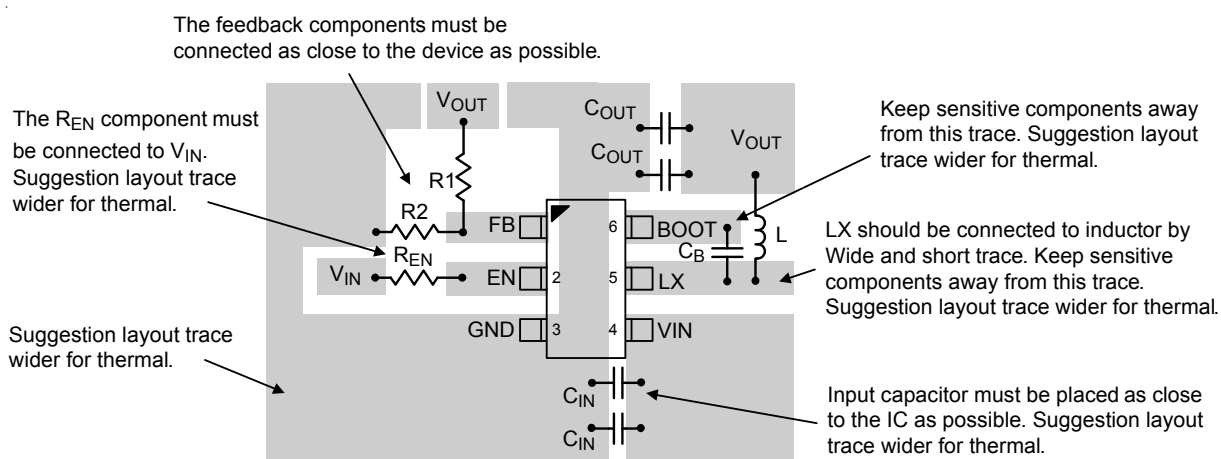

Figure 8. PCB Layout Guide for TSOT-23-6 package
- ▶ An example of RT6255A/B PCB layout guide is shown in Figure 8 and Figure 9 for references.